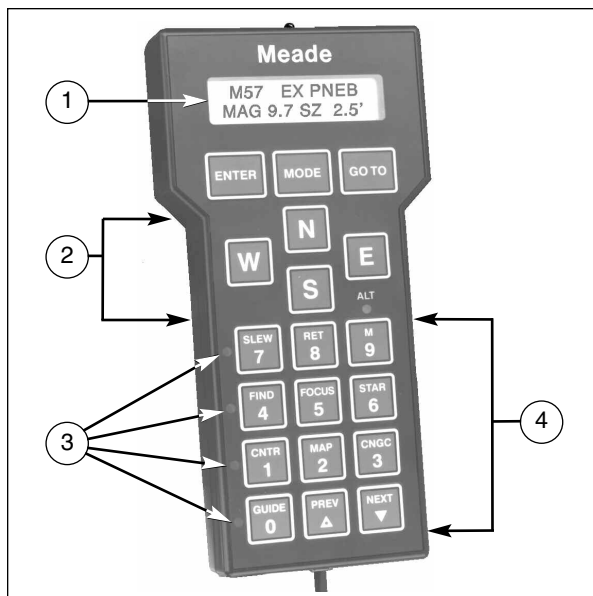

Fig. 5: Keypad Hand Controller. (1) Display; (2) Direction Keys; (3) Speed Indicator LEDs; (4) Speed Selection Keys.
- d. Turn on the power switch on the power panel of the LX200. The keypad display (1, Fig. 5) will show “MEADE” for several seconds as the microprocessor does a self-diagnostic test. When the self-diagnostic test is complete, the display will show “TELESCOPE” on the top line, “OBJECT LIBRARY” on the lower line, and the red LED light next to the “SLEW” button will light up.
- e. At this point, the LX200 is ready to use. Select the speed at which you want to move the telescope by pressing the appropriate Speed Selection Key (4, Fig 5). Note that you will be able to “see” the telescope move only in the SLEW and FIND modes; CNTR (center) and GUIDE motions can only be seen while looking through the telescope. The red LED next to that key (3, Fig. 5) will light, indicating the speed selected. Then press one of the four direction keys (2, Fig. 5) to move the telescope in that direction at the selected speed.